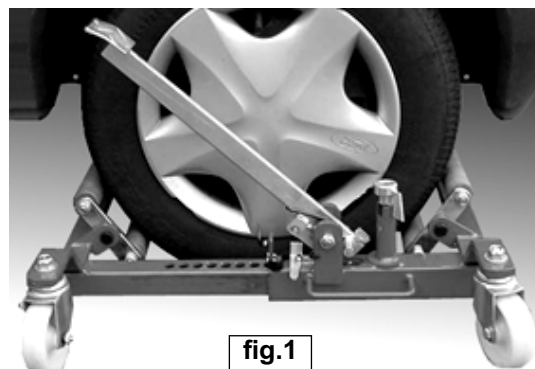

fig.1
3.3.1. Take hold of each side of the frame and expand the unit until it is wide enough to slide the rollers either side of the tyre. (See fig.1) Make sure that both sets of rollers are centred on the tyre then push the unit together again until each pair of rollers are in contact with the tyre.